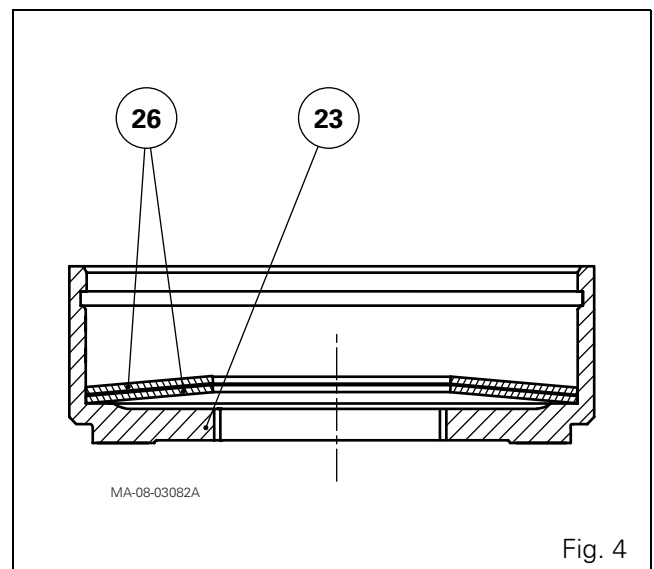

Fig. 4
40. Position the Belleville washers (26) in the bell housing (23) (Fig. 4).
41. Lubricate and fit the "O" ring (25) on the hub (30).
42. Place the hub (30) in the bell housing (23) braced against the Belleville washers.
43. Fit discs (36), aligning the catches and intermediate plates (37), and fit the cover (29).
**NOTE:** Depending on the assembly option, the cover (29) and the number of discs and intermediate plates may be different.